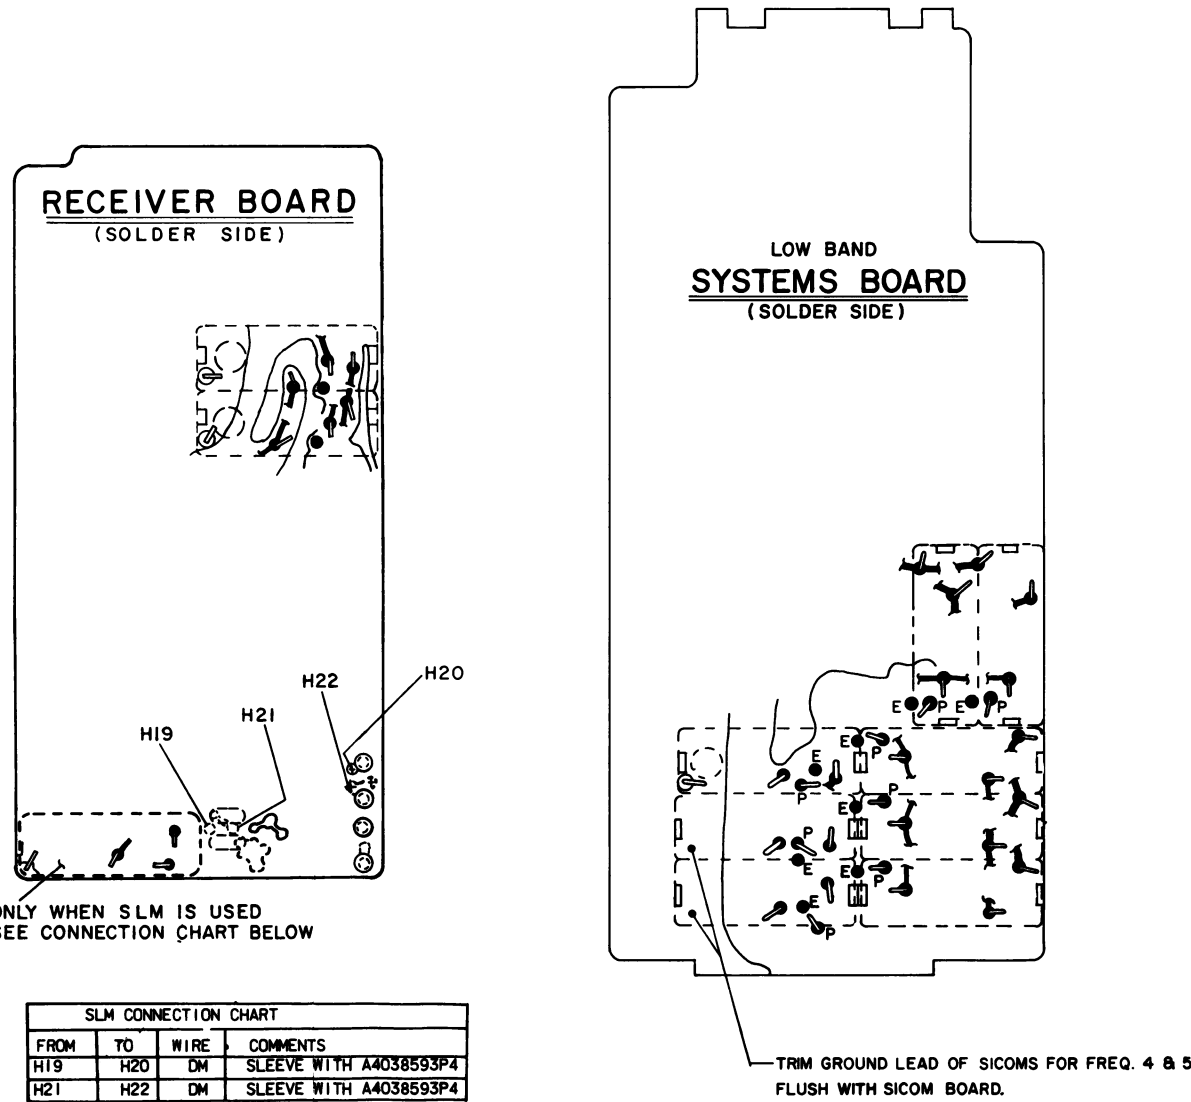

Figure 3 - Oscillator Module and Diode Installation
- Install the oscillator(s) whose frequencies are to be repeated as directed above except solder the Number 4 pin to the "E" pad instead of the "P" pad (see Figure 3).